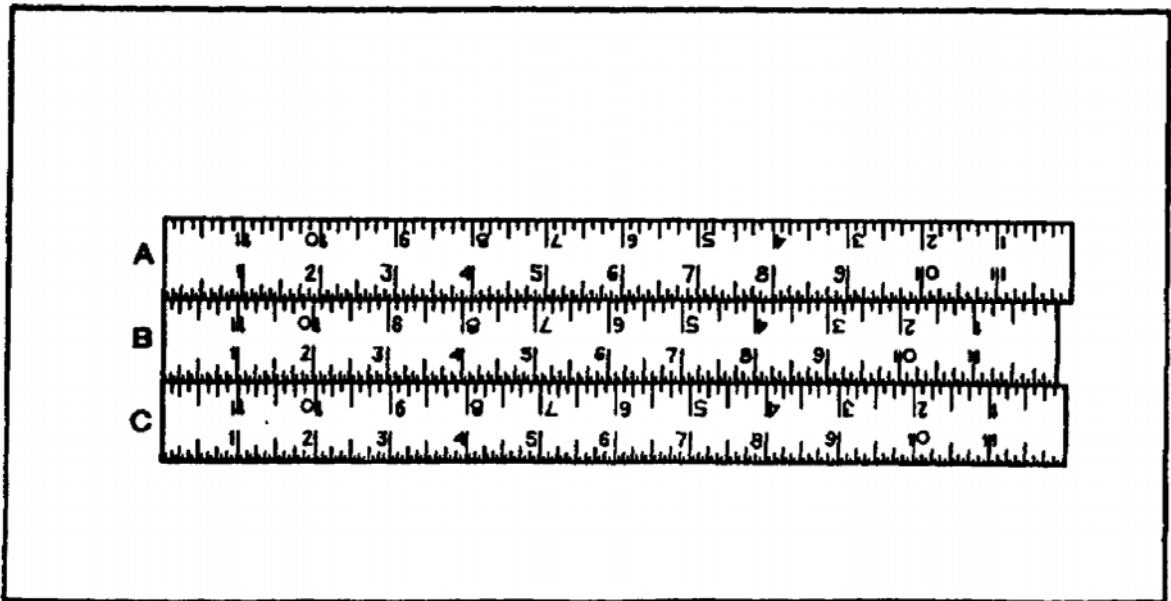

FIGURE 165. SHRINK RULES COMPARED TO STANDARD RULE.
(2) *Shrink Rule.* The shrink rule (figure 165) resembles an ordinary rule, except that its scale automatically compensates for the shrinkage in castings. In the manufacture of a casting, molten metal is poured into a cavity formed in sand by a wooden or metal pattern of the part. The impression in the sand is that of the pattern and is of the same size and shape. The molten metal fills the cavity, solidifies, and cools. As all metals expand when heated and contract when cooled, the casting shrinks as it cools, and becomes smaller than the cavity. To compensate for this shrinkage so that the casting will be the correct size when it cools, the pattern must be made larger than the part itself. So, in making the pattern, using the blueprints of the part, it is necessary for the patternmaker to add just the correct amount to every dimension to take care of shrinkage. Rather than calculate this shrinkage, the patternmaker uses a shrink rule, which automatically compensates for it.
Every metal has its specific shrinkage value; the expansion or contraction for each degree change in temperature is not the same. Shrinkage for the two most common casting metals are: iron -  $1/8$  inch per foot; brass -  $3/16$  inch per foot. A special shrink rule is required for each of these casting metals. In figure 165, two shrink rules, A for brass and C for cast iron, are shown in comparison with a standard foot rule, B. Note that the inch marks on the shrink rule do not match the corresponding marks on the standard rule, and